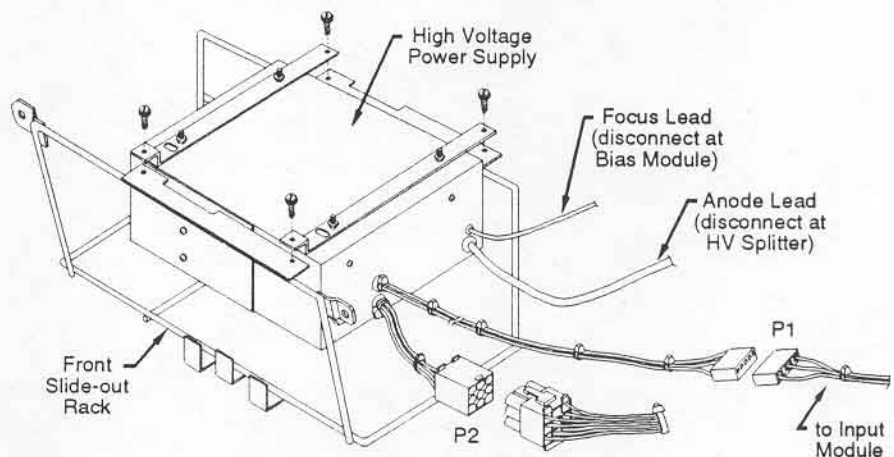

Figure 5-17. HVPS Removal
- f) Disconnect the M24-P1 and M24-P2 connectors from the module as shown in Figure 5-17.